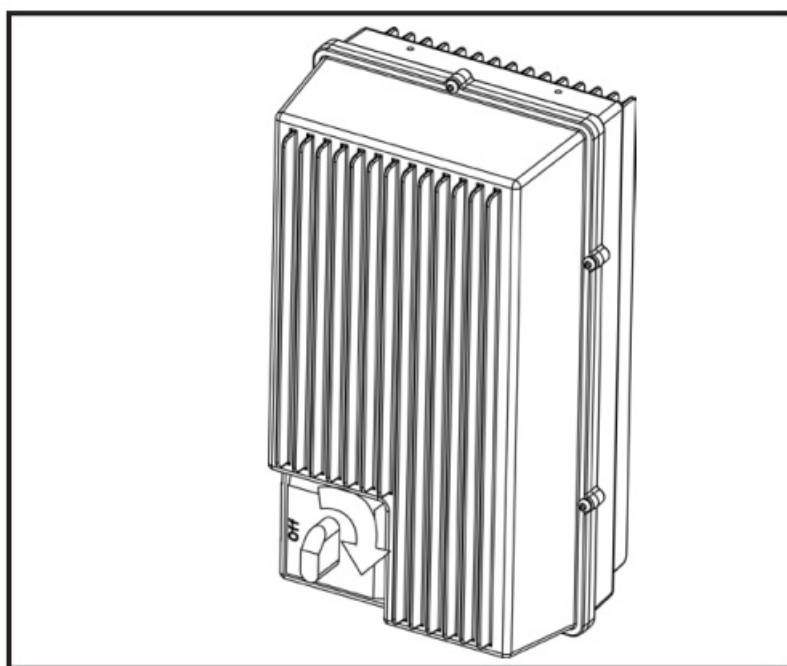

Fig. 1
2. Interrupt the master switch (Fig. 1).
1. Turn off the main switch at the control box (Fig. 1)